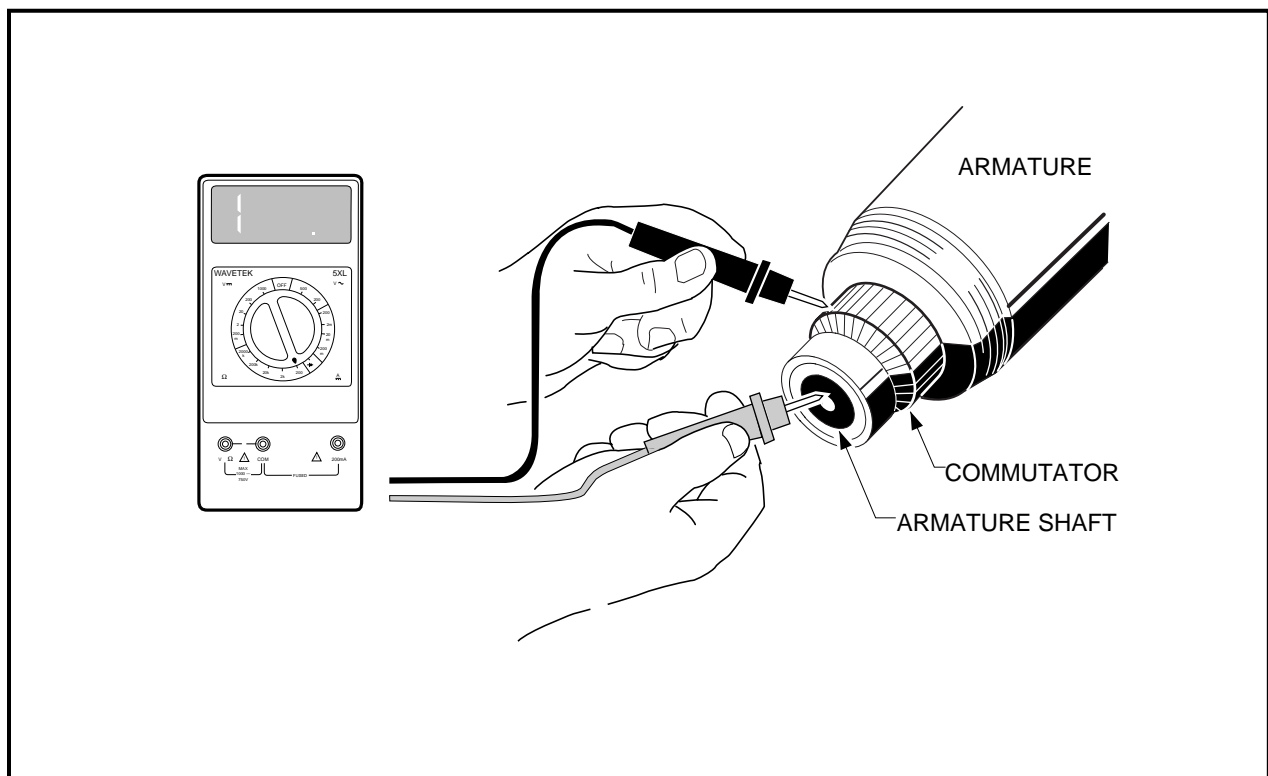

Figure 12-13 Armature Ground Test
1. Using a multimeter set on 200 Ω (ohms), place the positive probe on the commutator bars and the negative probe on the armature core. The reading should be **NO** continuity. If the reading is incorrect, replace the armature and the two bearings (**Figure 12-13, Page 12-9**).